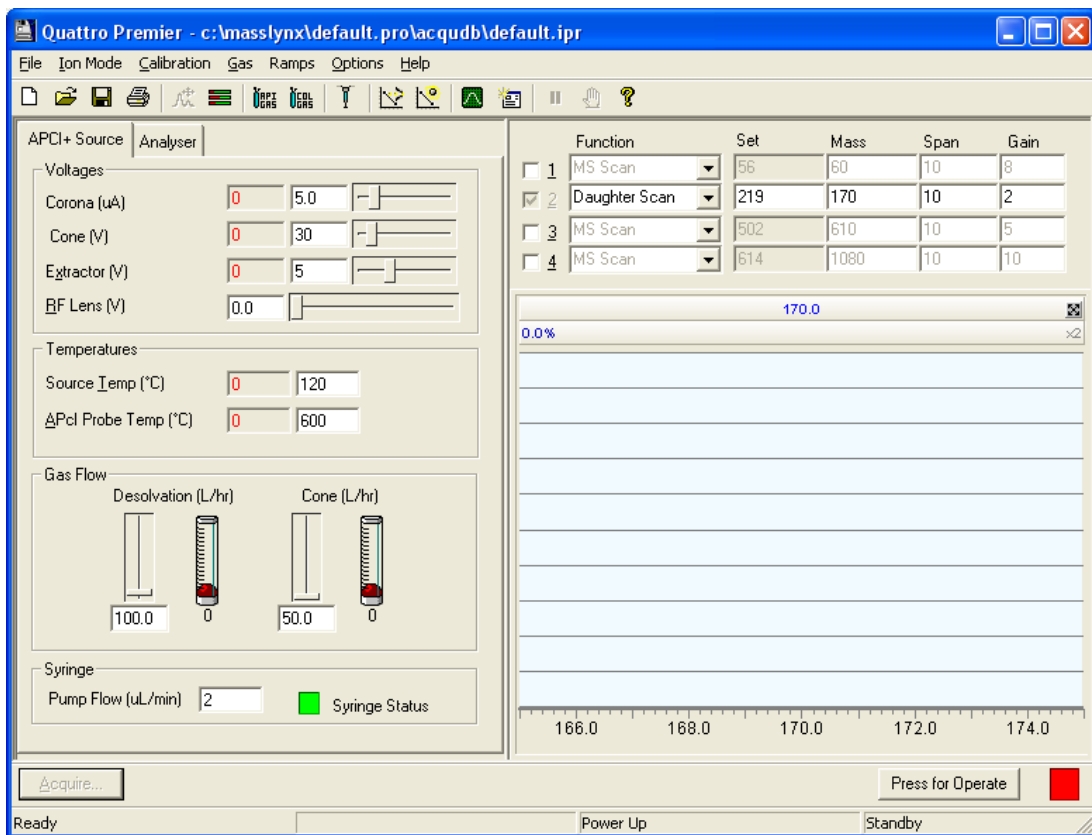

Figure 3-4 Tune Window APCI+ Source Page
- In the MassLynx Tune window, select Ion Mode > APCI+ to display the APCI+ Source page (Figure 3-4).